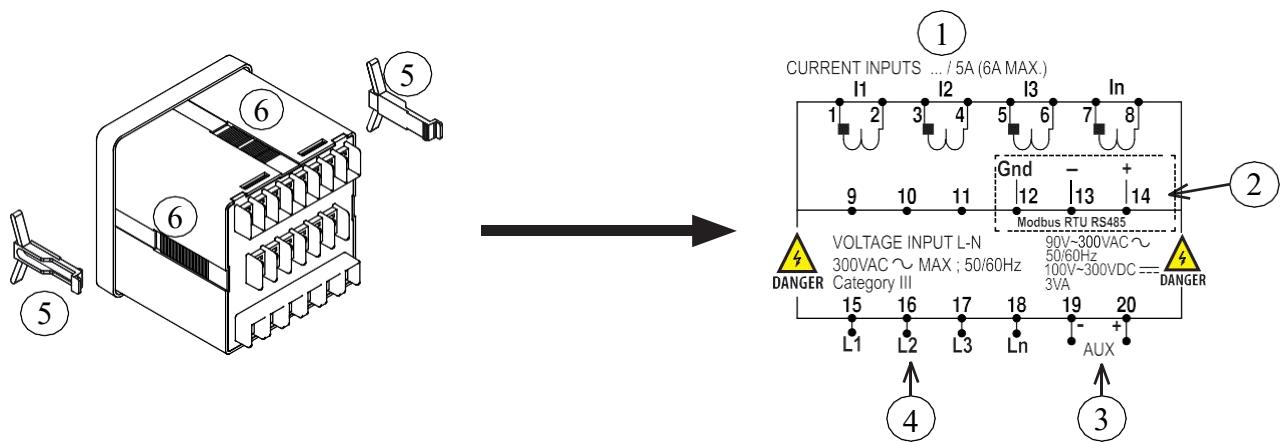

Figure 1: Parts of power meter
- Insert the power meter through the hole and slide in the retainer clip along the slots on left and right sides or bottom and top sides of the power meter until the device is tightly secured on the switchgear panel. The orientation of the retainer clips is shown in Figure 1. The retainer clip can be removed by lifting the tab lightly at the handle end.